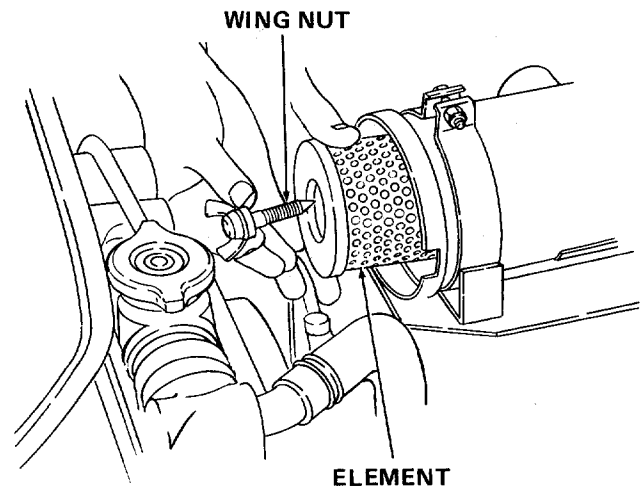

Figure 46
3. Avoid removing the element except when cleaning. To remove the element, first remove wing nut by turning counterclockwise. (See Figure 46.)